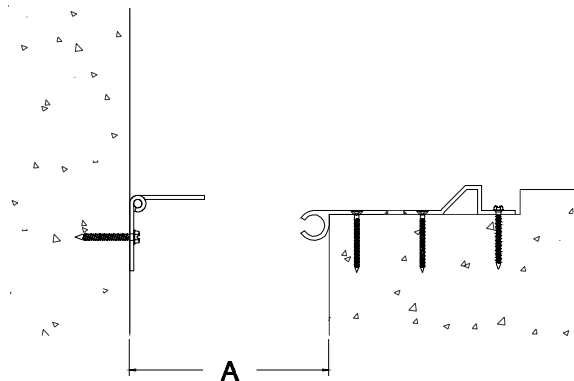

Figure 7
STEP 9. Place the hinge back into its installed position, aligning the anchor holes in the base members with the anchor holes in the fire barrier retainers, if applicable, and in the wall. Ensure that the hinge is level, plumb, and properly aligned. Using the anchors provided by the factory, attach the hinge to the wall (see Figure 7).